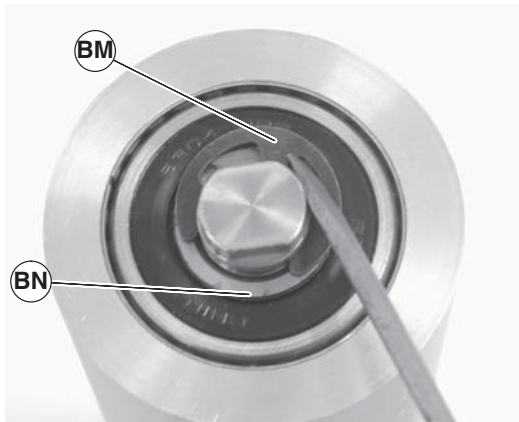

Figure 83
- Remove the pulley shaft assembly: remove the clip ring (Figure 83, item BM) and washer (BN) from one side of the pulley assembly.